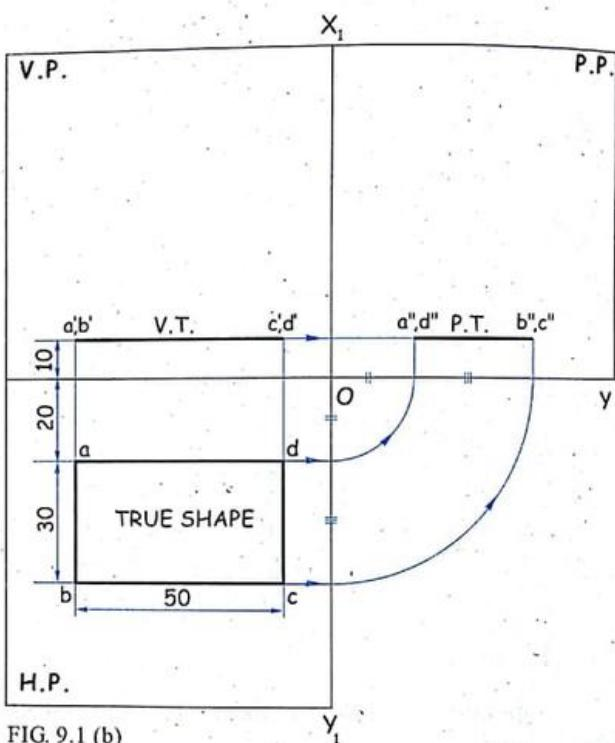

FIG. 9.1 (b)
1. The required position of a plane $ABCD$ is shown in figure 9.1 (a) with its projections, i.e. front view (F.V.) $a'b'c'd'$, top view (T.V.) $abcd$ and side view (S.V.) $a''b''c''d''$.